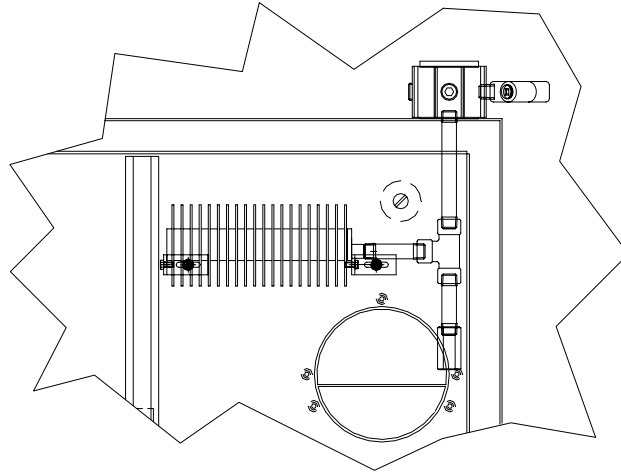

Figure 48 Electric Heater Option-Factory Installed
- Electric Heater Option (Factory Installed, see Figure 48)